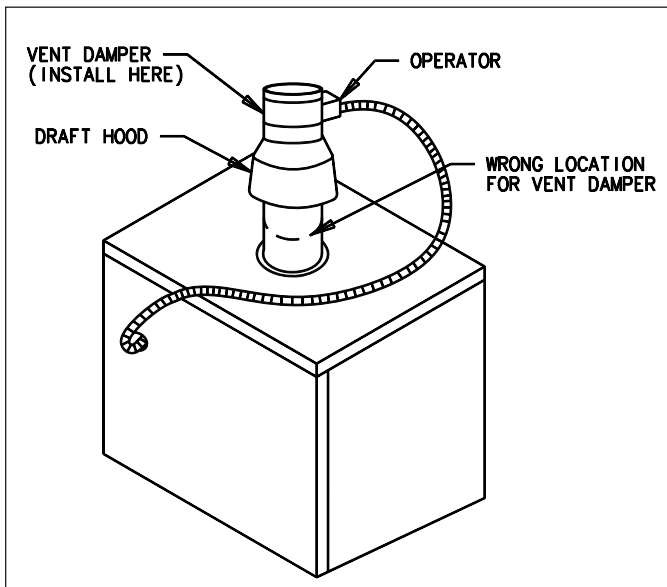

Figure 1. Vertical installation of vent damper on Sentinel "SE" boilers
3. Select a proper, convenient location for vent damper. Vent damper may be installed vertical or horizontal on all models (see figures 1 and 2).
- B. 1. This device must be installed after the boiler draft hood (between the draft hood outlet and the connector to the outdoor chimney or vent) as close to the draft hood as practicable, and without modification of the draft hood or the vent damper. (See figure 1 and 2.)